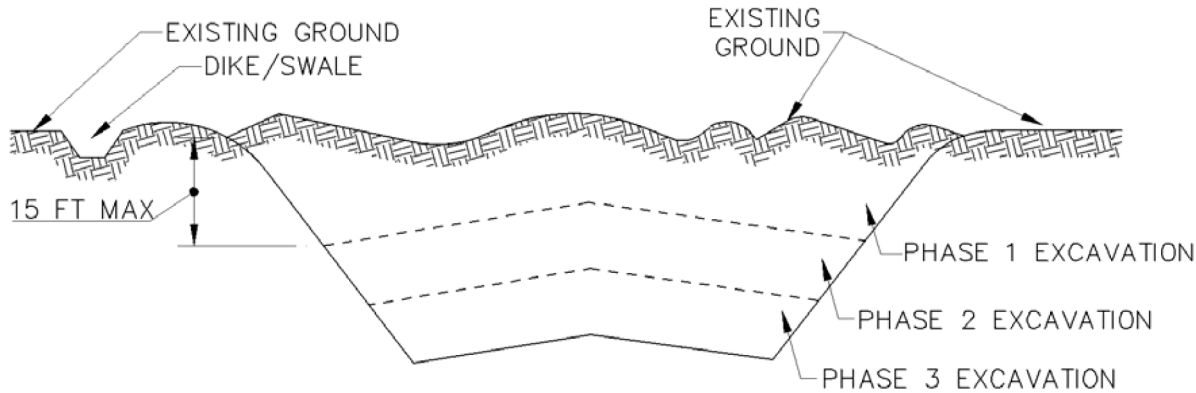

Figure B.1: Incremental Stabilization – Cut
- 2. Construction sequence example (Refer to Figure B.1):